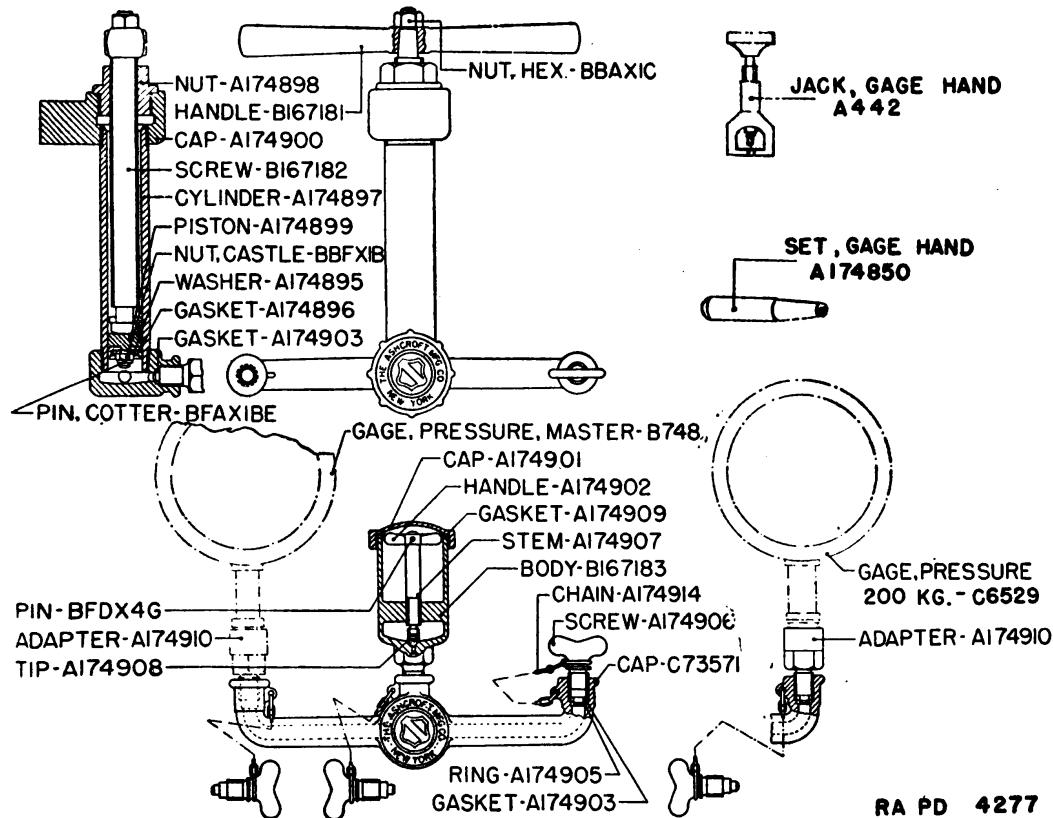

FIGURE 3.—Pressure gage tester.
*b. Chest, pressure gage tester, with contents, complete.*—(1) Apparatus carried in this chest (fig. 3) is used for testing the accuracy of the service pressure gage (C6385) with the master pressure gage (B748). The equipment consists of the tester, master gage, and the various tools, adapters and spare parts used therewith. The pressure gage tester is a tube with a connection at each end for the service and master gages. It is filled with liquid which can